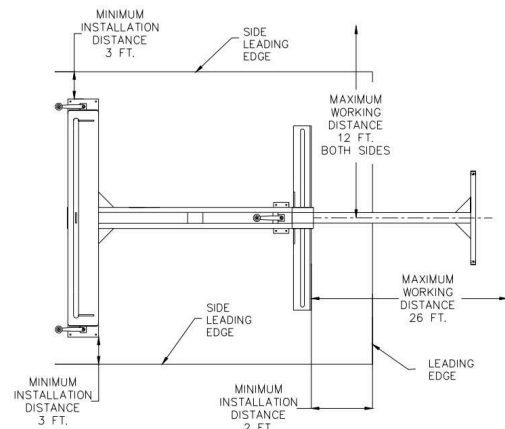

Figure 3
- Ensure the unit has been placed at a minimum of 2 feet from the front of the unit to the leading edge of the work surface and 3 feet from either side of the unit to the side edge of the work surface. (Fig. 3)